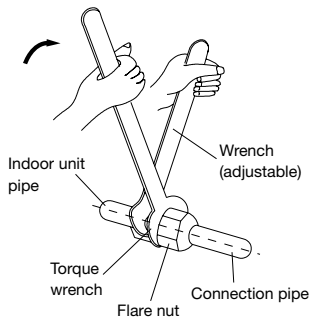

Figure 18
- Tighten the flare nut to the specified tightening torque with torque wrench and adjustable wrench (Figure 18).